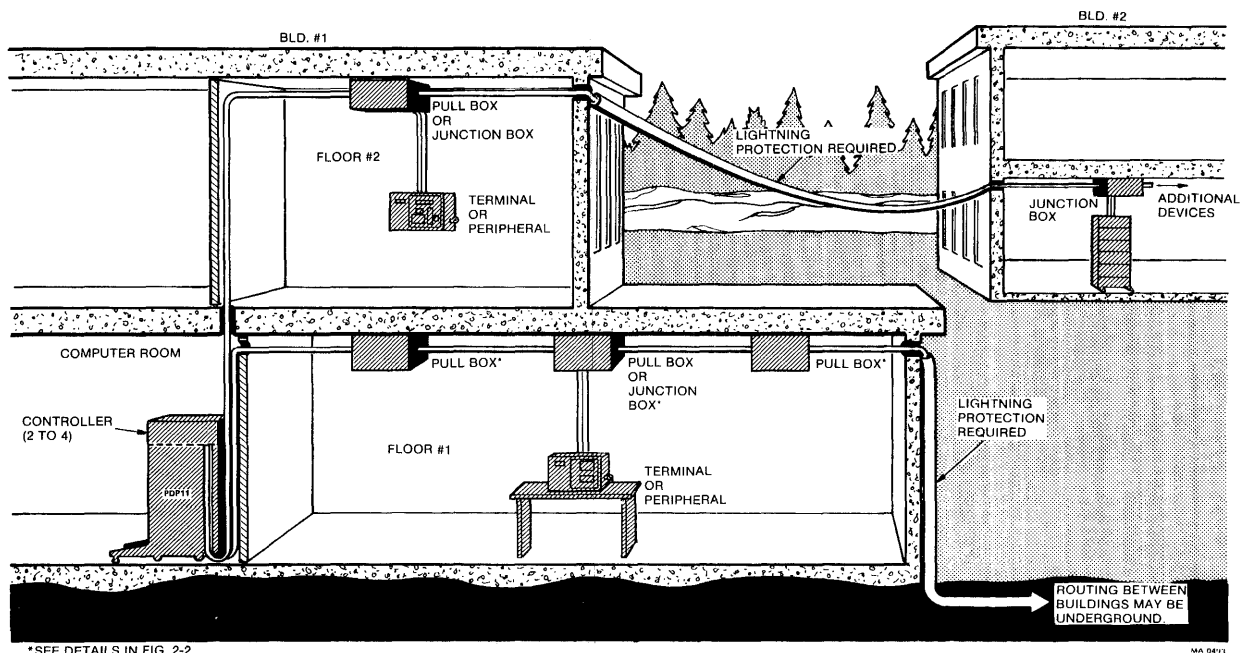

Figure 2-1 Accessibility and Space Requirements
2.2 ACCESSIBILITY AND SPACE REQUIREMENTS (Figure 2-1)